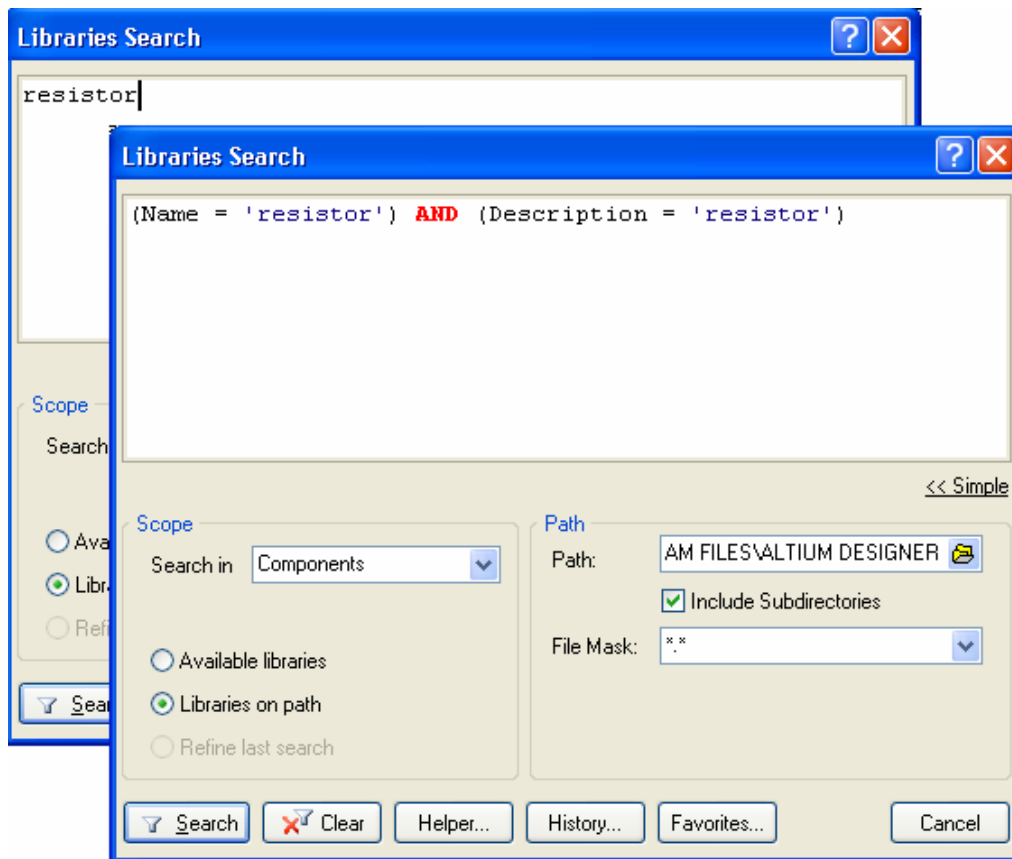

Figure 11. Advanced view for Search Libraries dialog
- The search dialog uses a standard query to search the libraries – if the string you type does not include a query keyword it is assumed that the text is either part of the component *Name* or *Description* and a query is built automatically, as shown in Figure 11.